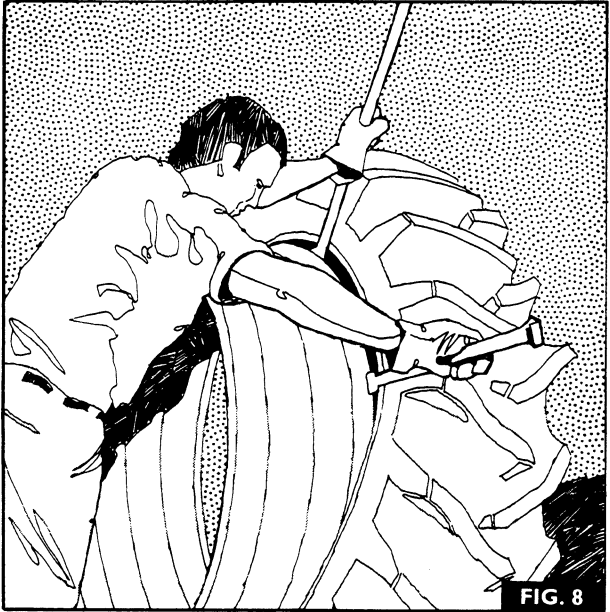

FIG. 8
2. Figs 8 & 9. With the wheel in a vertical position pry off the tyre taking small bites with the tyre levers. The use of rubber lubricant will help removal.